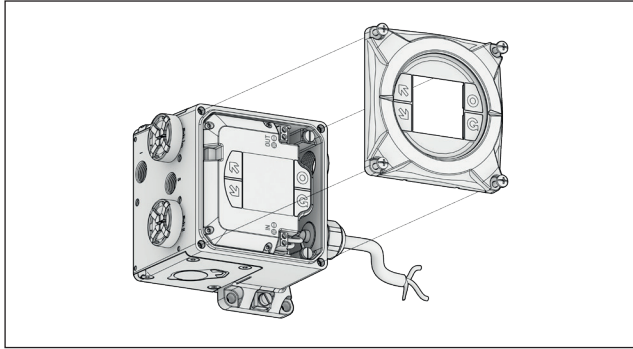
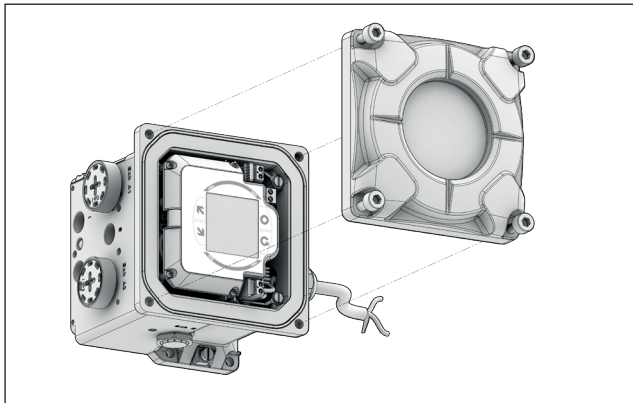

Fig. 94. NDX1510\_
Fig. 95. NDX\_511\_ and NDX\_512\_
- Loosen the electronics module screws and grounding screws (NDX\_511\_ & NDX\_512\_), then remove the electronics module. (Fig 94, Fig 95)